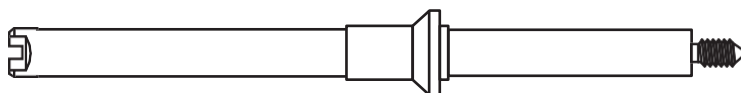

Figure 14. Mounting post (G4513-20561)
- 7 Install the injector mounting post (G4513-20561, Figure 14) to the GC inlet cover's threaded connection. If the wrong post is used (for example the 7683B ALS mounting post) the injector will not work. The mounting post supplied in this kit only supports the G4513A Injector.